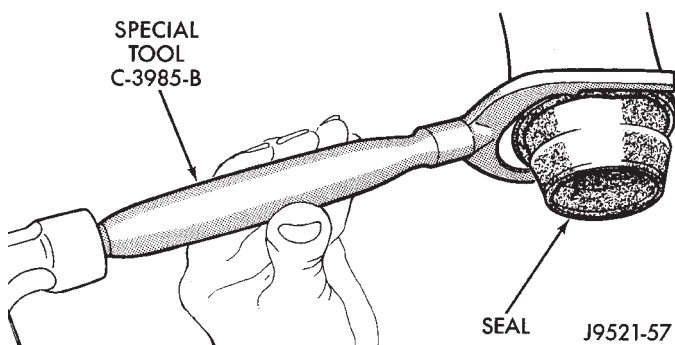

Fig. 31 Removing Overdrive Housing Yoke Seal
- (3) Disconnect and remove propeller shaft.
- (4) Remove old seal with Seal Remover C-3985-B (Fig. 31) from overdrive housing.